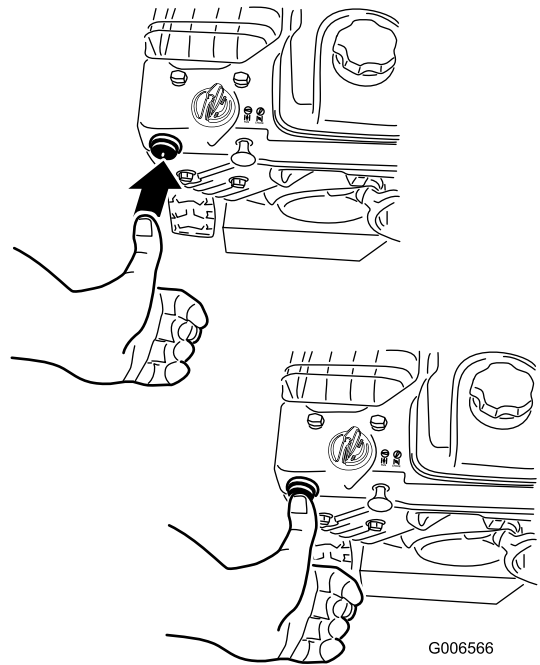

Figure 29
4. Firmly push in the primer with your thumb 2 times (15°F or -9°C or above) or 4 times (below 15°F or -9°C), holding the primer in for a second before releasing it each time (Figure 29).